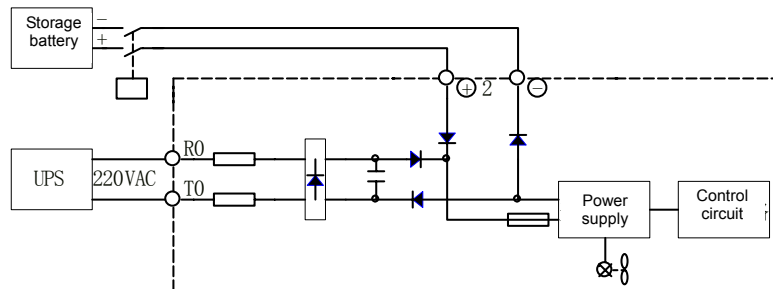

Figure 4.11 Emergency power and storage battery connection
- b) The connection of UPS and storage battery is shown in Figure 4.11.